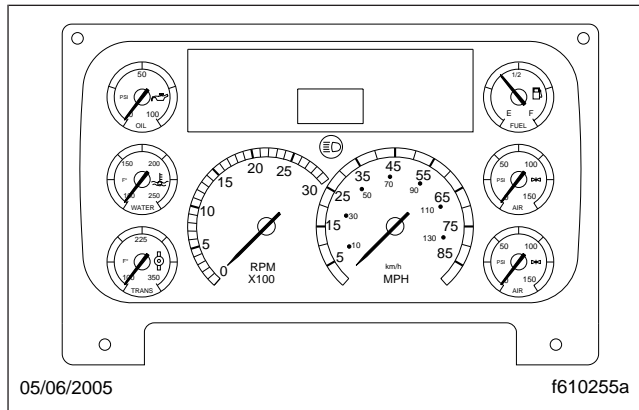

Fig. 1, ICU3
2. Remove the ICU3. See **Fig. 1**. For detailed instructions, see **Subject 100**.